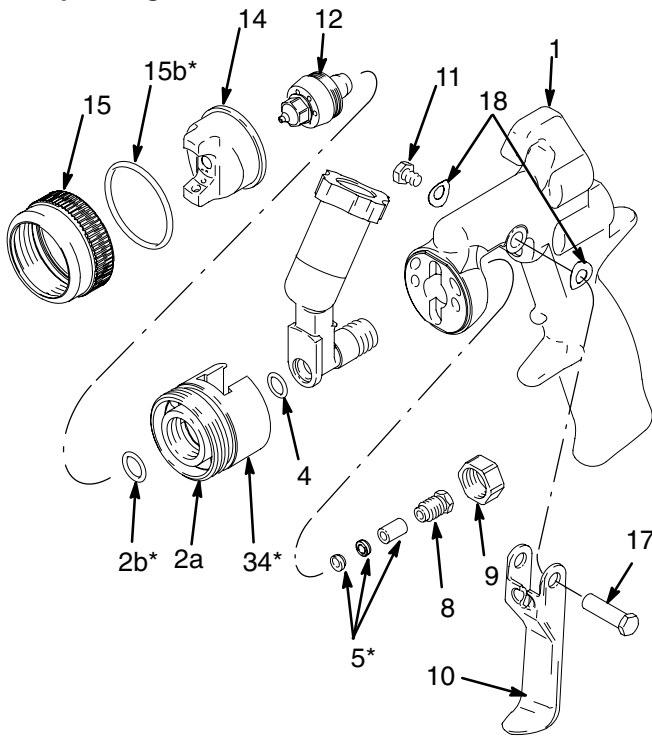

Fig. 23
1. With the spray housing (2a) removed from the adapter (4), use a mechanical pick to remove the o-ring (2b) from the housing (2a).
2. Remove o-ring (34) from the adapter (4). See Fig. 23.